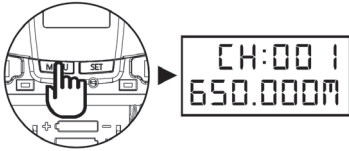

Figure 8
1. Use MENU button to go to the CHANNEL | FREQUENCY page (Fig 8).